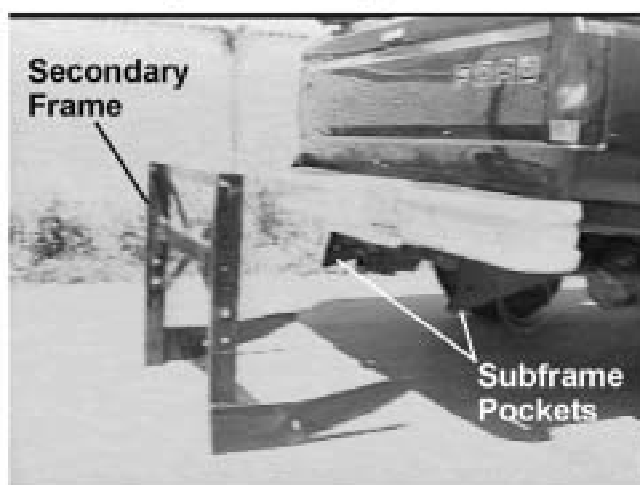

Figure 14
1. Position secondary frame behind truck and insert mount bars of secondary frame into subframe pockets. See Figure 14.